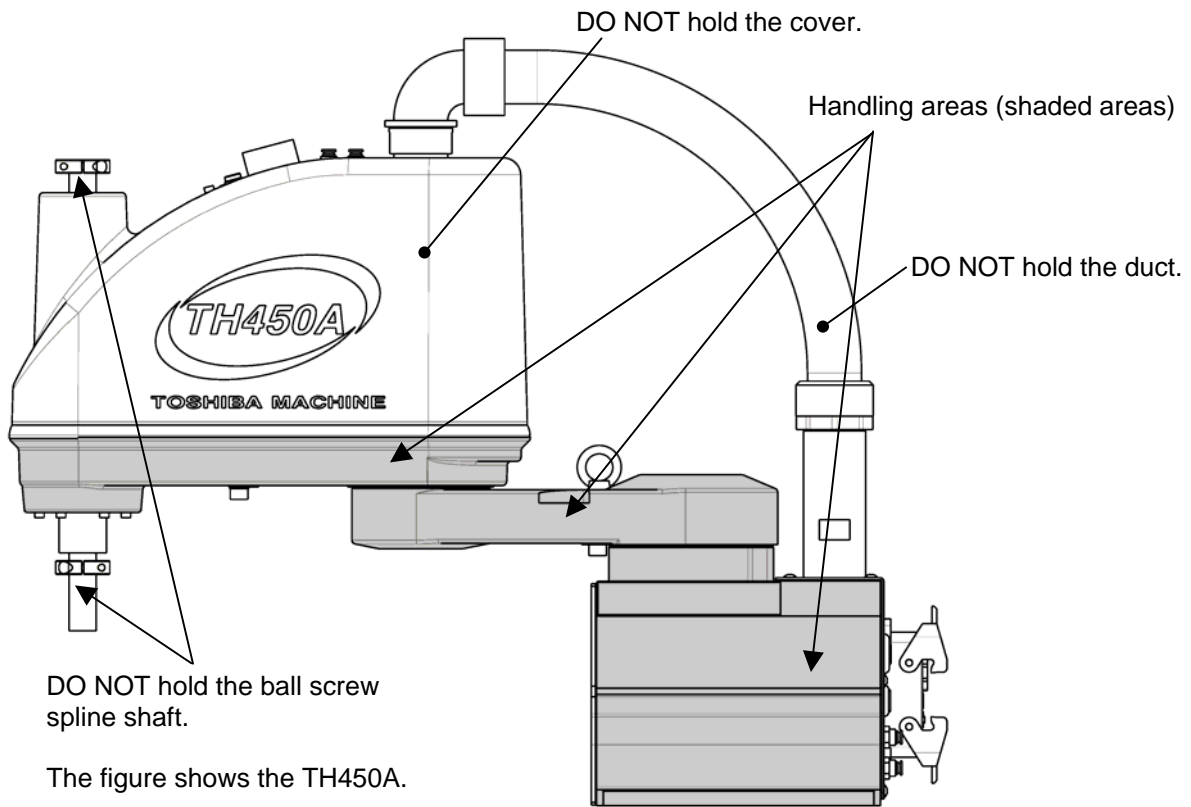

Fig. 2.5 Robot handling areas
- When lifting up the robot by workers, hold the locations (shaded areas) by hands as shown in Fig. 2.5. If the arm 2, cover or ball screw spline shaft is held by hands, an unusually large force is exerted, resulting in a malfunction.
- The work should be performed by two (2) or more workers.